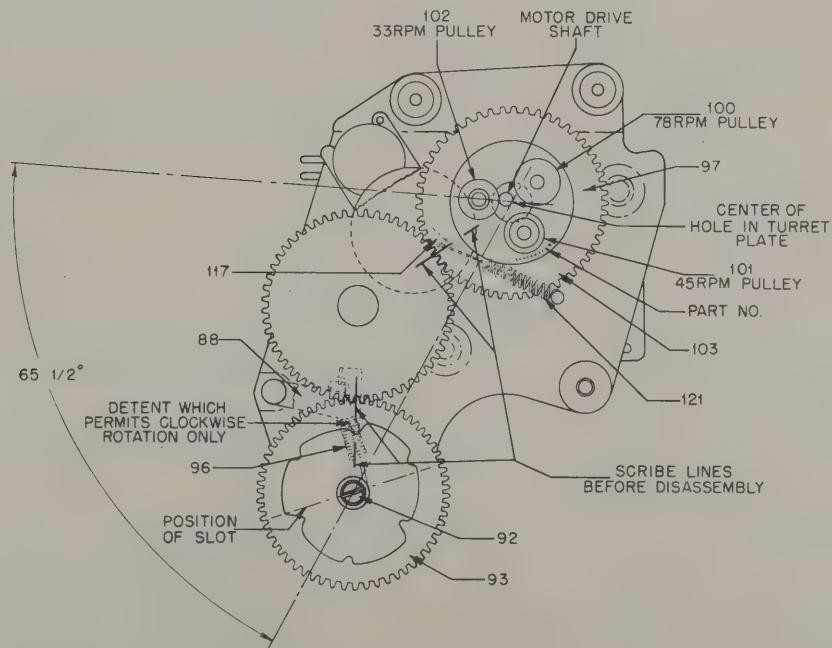

FIGURE 14. MOTOR GEAR TRAIN ASSEMBLY
CAUTION: Do not disassemble the speed changing mechanism without first marking the positions of turret assembly, the speed change gears, and the speed change cam, as shown in Figure 14. But, if the turret has been removed accidentally, or if the above precaution has not been taken, the assembly procedure is as follows (refer to Figures 9 & 14).
- Assemble the speed control pulleys (100), (101), (102) to the turret plate (97A). They are snapped over the pulley shafts, and they can be pried off with a screwdriver. Note that the 45 RPM pulley is adjacent to the part number on the turret plate, as shown in Figure 14.
- Attach the turret plate (97) and the speed change gear (103) to the speed control bracket with the turret spring washer (104) and the two machine screws (105).
- Place the speed change shaft assembly (92) and the speed change gear (93) on the speed control bracket. Do not tighten the collar bushing (94) to the shaft.
- Rotate the turret assembly until the correct angle is obtained between the center of the turret plate and the speed change shaft and 33 RPM speed control pulley, as in Figure 14. Use a combination square with a protractor, or other accurate protractor, for measuring the angle.
- Lift the speed change gear (93) from the idler gear and rotate it until the slot in the shaft is in the direction shown in Figure 14 and the speed detent pawl (88) falls into the detent in the speed change cam (92A). There are two detents, on opposite sides of the cam, into which the pawl may fall. The correct detent is the one which will permit clockwise rotation only of the speed change shaft.
- Tighten the setscrew (95) in the collar bushing (94).
- Attach the motor (106) to the studs on the speed control bracket with the "C" washers (113).
- Attach the tension springs (121), (96), (115). Note that the idler wheel spring (121) hooks into a soldering lug (117) under the idler wheel.